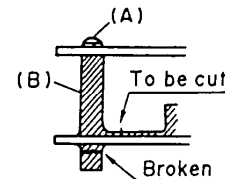

Fig. 1
(1) Remove the Mechanism Ass'y and make sure that which stud (either left side stud or right side one) is broken. Stud Ass'y (L-Side) is necessary for replacing the left side stud and Stud Ass'y (R-Side) for right side stud.
(2) Loosen screw (A) and remove the damaged (broken) molded stud (B). Before removing the stud (B), cut the mold as shown in Fig. 1 to isolate the stud (B). Note that, if the stud (B) is pulled before cutting, the other molded part will be damaged.